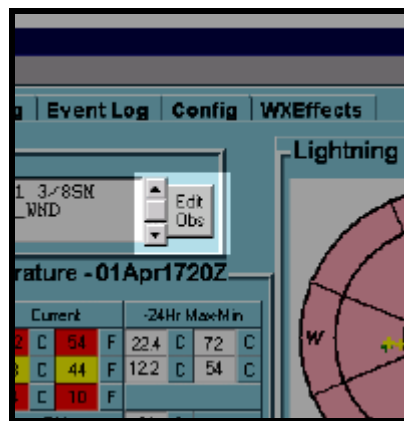
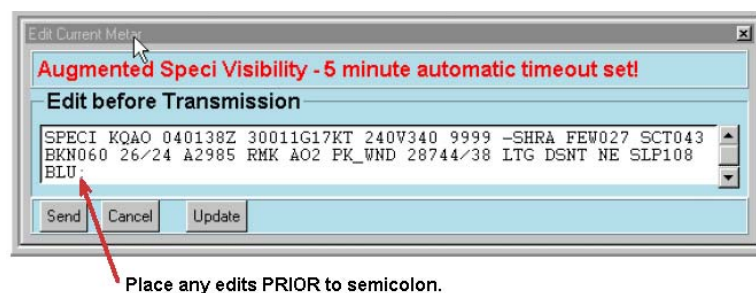

Figure 25. Edit Obs Command Button
Figure 26. Augmented Observation Edit Window (5 minute delay set)
(4) Generate Manual Weather Observation.
- (a) Select Edit Obs command button on the AOS Standalone Sensor Display (see Figure 25). The Augmented Observation Edit Window will be displayed (see Figure 26).